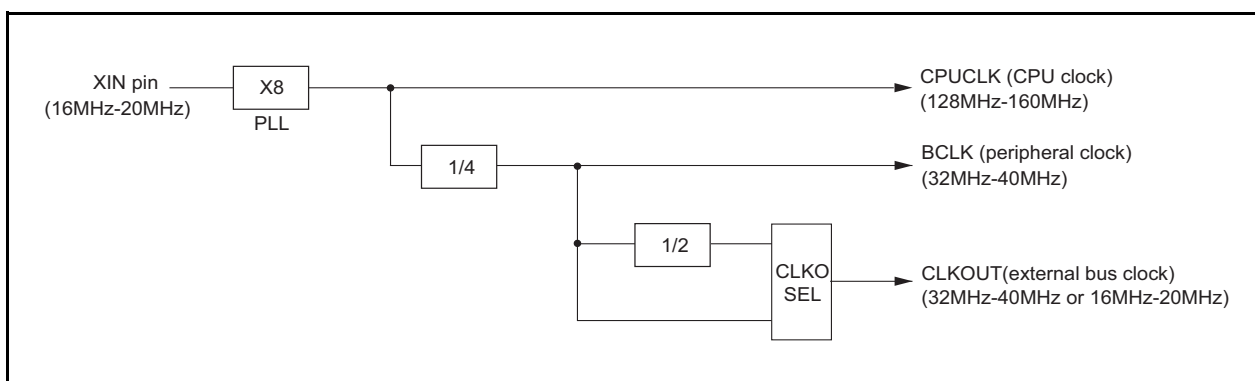

Figure 1.1.1 Conceptual Diagram of the Clock Frequency Multiplier
- The 32192 contains a clock frequency multiplier, which is schematically shown in Figure 1.1.1 below.